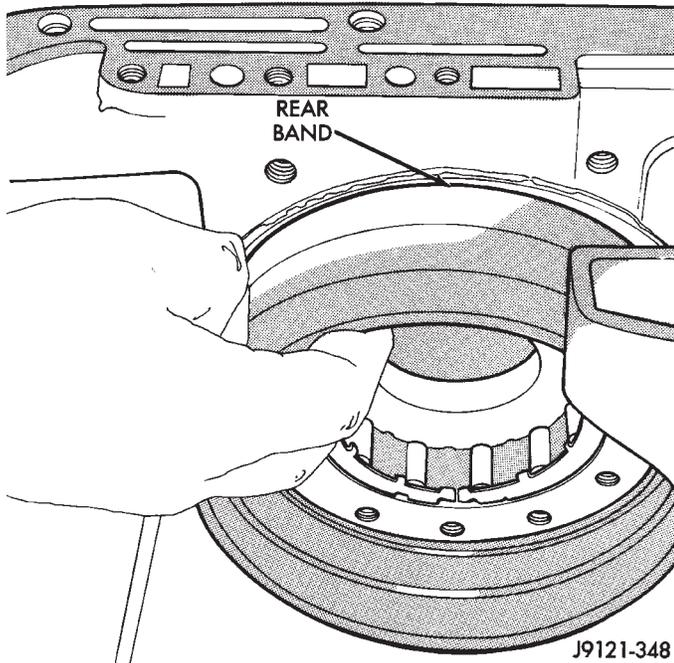

Fig. 134 Rear Band Installation
(4) Lubricate clutch cam rollers with transmission fluid.
(5) Install rear band in case (Fig. 134). Be sure twin lugs on band are seated against reaction pin.